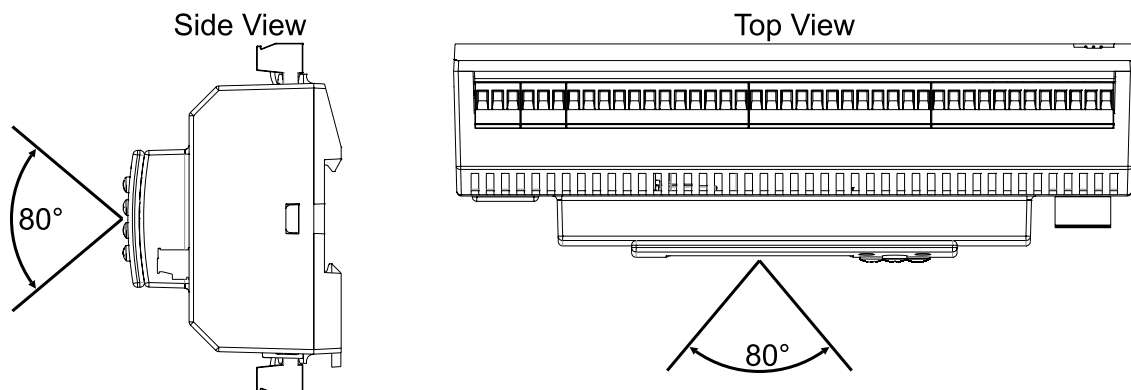

Figure 2-5: LCD Optimum Viewing Angle
- The MAXIM I, II, III, and 1010 controllers should be installed in a position that provides easy access to the optional HMI, and sufficient room for power and input/output cabling. Placement of these controllers should account for the optimum viewing angle of the LCD, which is approximately 80° vertically, and 80° horizontally, as illustrated in Figure 2-5 below.